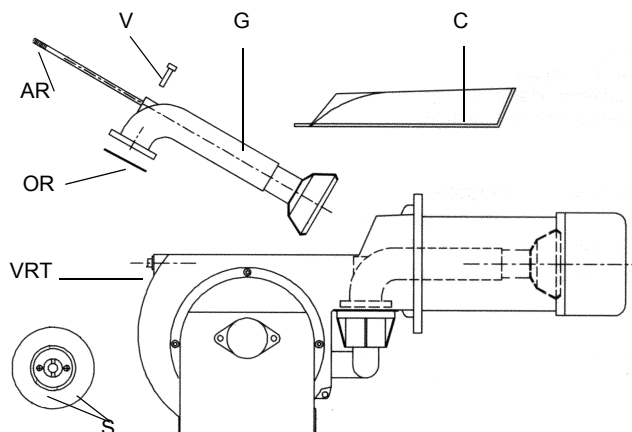

Fig. 39
- Removal, examination and cleaning of the combustion head (see Fig. 39)